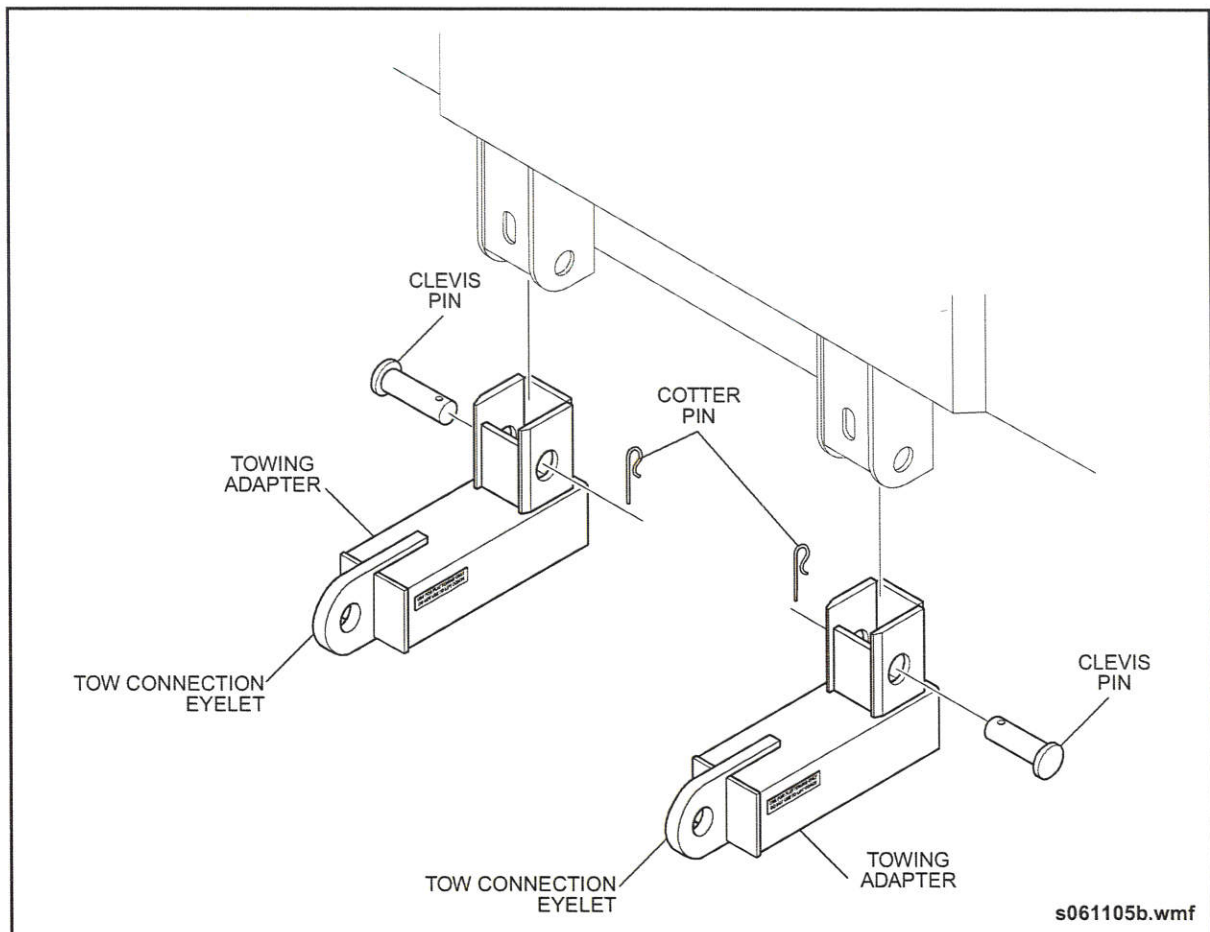

Fig. GI-21: Flat Towing Adapter
1. Install each tow adapter into a receiver and locate with a clevis pin. See "Fig. GI-21: Flat Towing Adapter" on page 44.